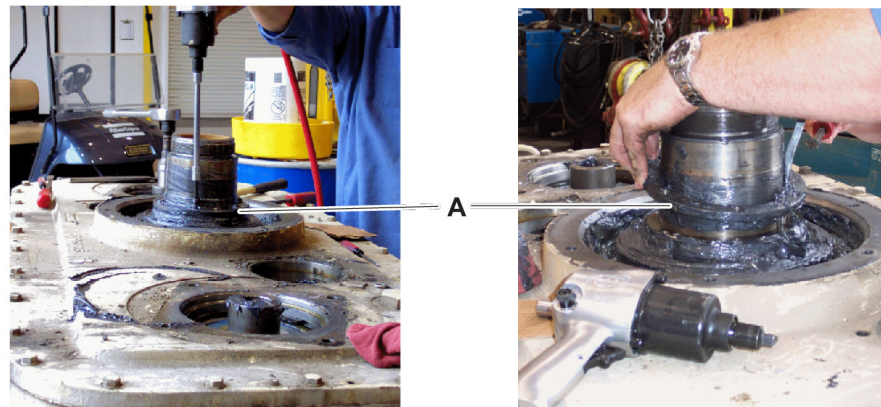

Figure 10
10. Remove the lock-tongued washer (Figure 10, item A).